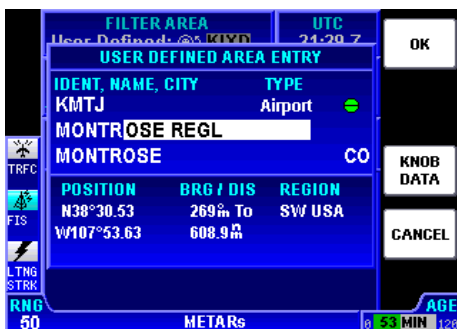

Figure 2-70
8. Turn the Rotary Knob to scan through the database until the desired name is displayed as in Figure 2-70.